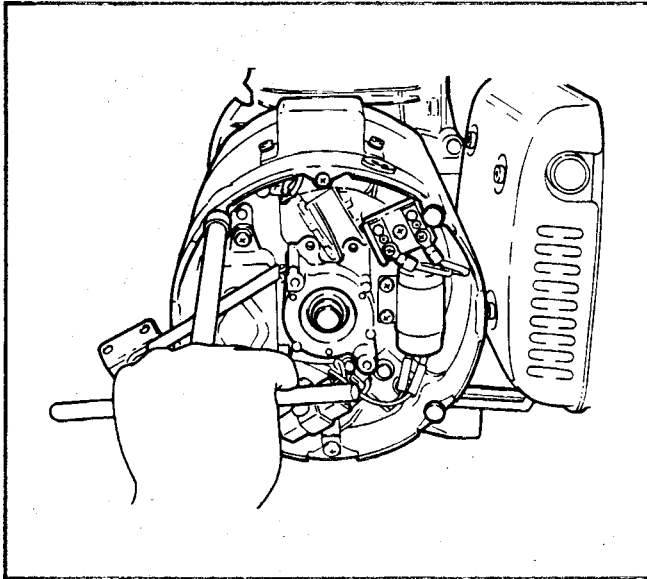

Figure 143
8. Remove the four generator through bolts. See Figure 143.